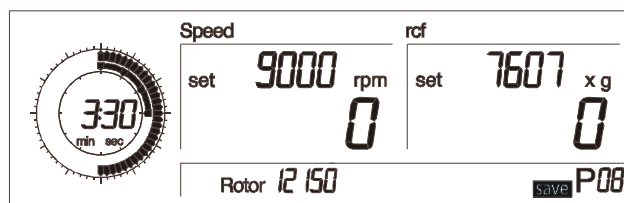

Fig. 5.17: Saving programs;
- Turn the left rotary knob until “save” appears on the display (Fig. 5.17).